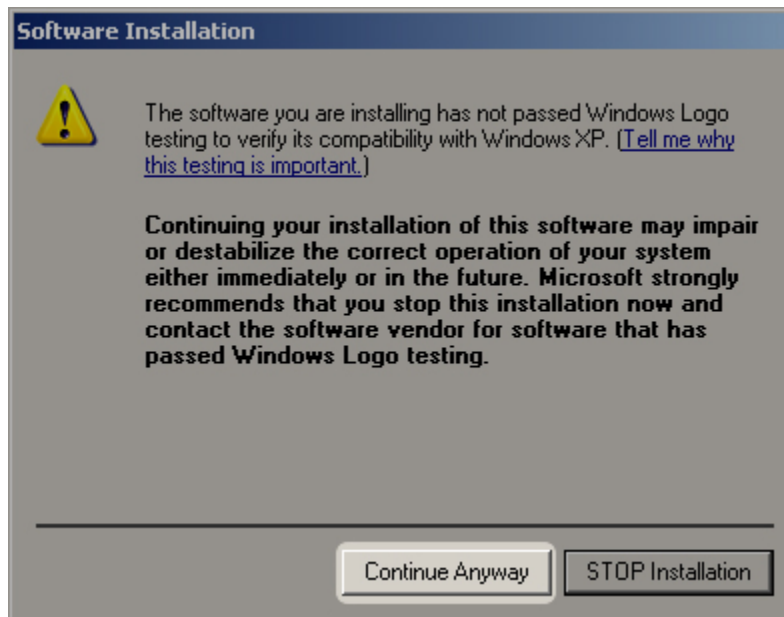

Figure 1.1: Instrument Driver Installation non-WHQL Warning Screen
- Note that if Windows is configured to warn when unsigned (non-WHQL certified) drivers are about to be installed, the screen shown in Figure 1.1 will be displayed. Click on "Continue Anyway" to continue with the installation. If Windows is configured to ignore file signature warnings, no message will appear.